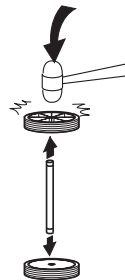

Figure 3
3. Assemble the wheels to the axle (Figure 3).